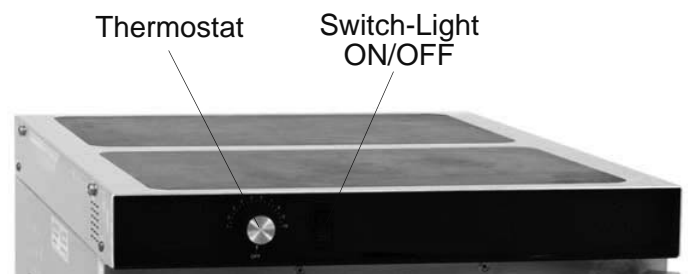

FIGURE 2
**HOW TO OPERATE UNIT: (Figure 2)**